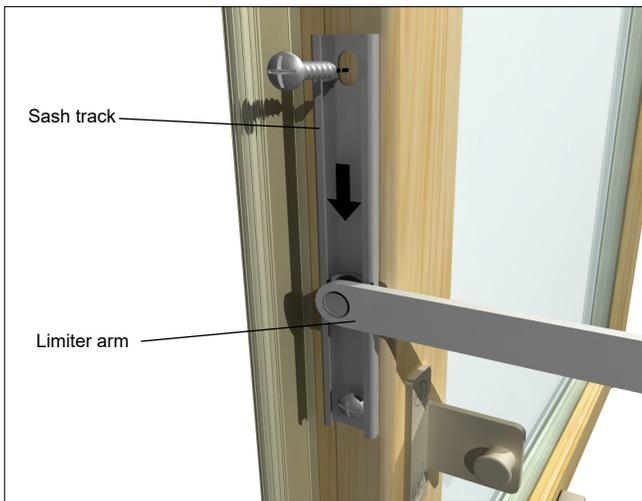

Figure 11 Install the sash track and limiter arm.
- Using the measurements from step 2, apply one #8x11/16" pan head screw through the sash track and into the stile. Slide the limiter arm into the track and then apply the second screw. See figure 11.